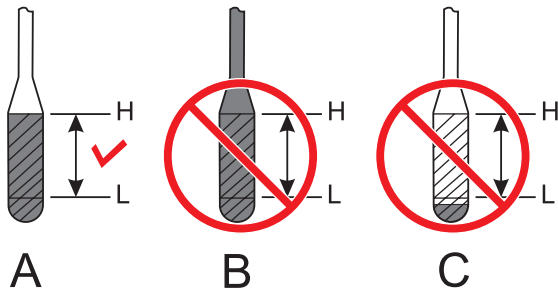

Figure 11. Engine Oil Dipstick Level
3. Reinsert the dipstick, then remove the dipstick from its holder. Check the oil level shown on the dipstick (Figure 11).